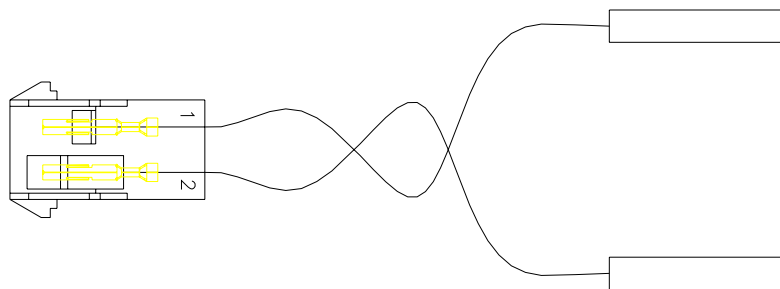

**Figure 8, PURGE VALVE ADAPTER HARNESS**
23. Install the "WIRE HARNESS PURGE VLV ADPTR" (Figure 8) on the valve.
33. Install the "WIRE HARNESS PURGE VLV ADPTR" (Figure 8) on the valve.
21. Install the “WIRE HARNESS PURGE VLV ADPTR” (Figure 8) on the valve.